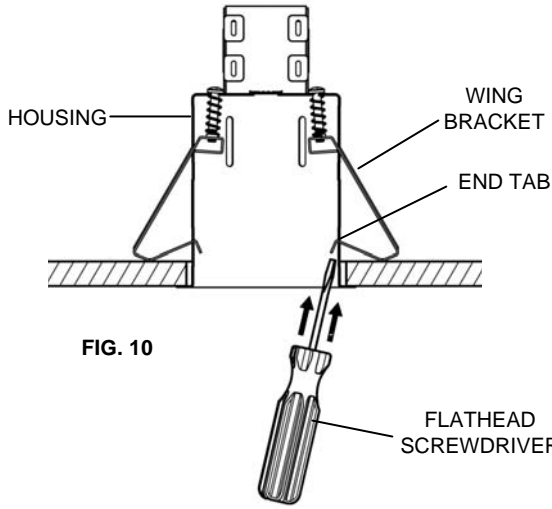

FIG. 10
2. Use a flathead screwdriver to carefully push the end tab of one of the wing brackets, upward toward the top of the housing. (Fig.10)